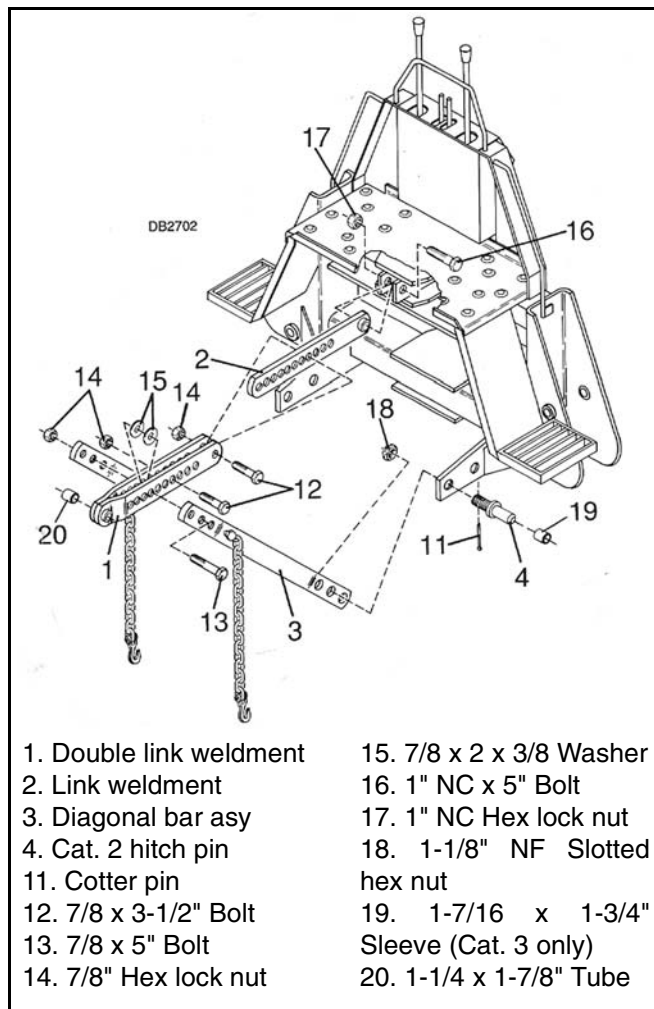

Figure 23. Saf-T-Lok Hitch
Position backhoe on level surface. Back tractor up as near as possible to center of backhoe. Refer to Figure 23 and select a pump mounting that will work on you specific tractor.
Insert hitch pin (4) through rear holes as shown in Figure 23 and place diagonal bars (3) on hitch pins. Install slotted hex nut (18) and snug up bit do not tighten at this time. Attach tractor lower lift arms to backhoe hitch pins (use sleeves (19) for category 3 tractors) and secure with a heavy-duty Klik pin. Use spacer washers between lift arms and Klik pin to remove any free play.
Attach link weldment (2) to backhoe with bolt (16) and lock nut (17). See Figure 23. Tighten nut against backhoe bracket but do not tighten to torque specifications.